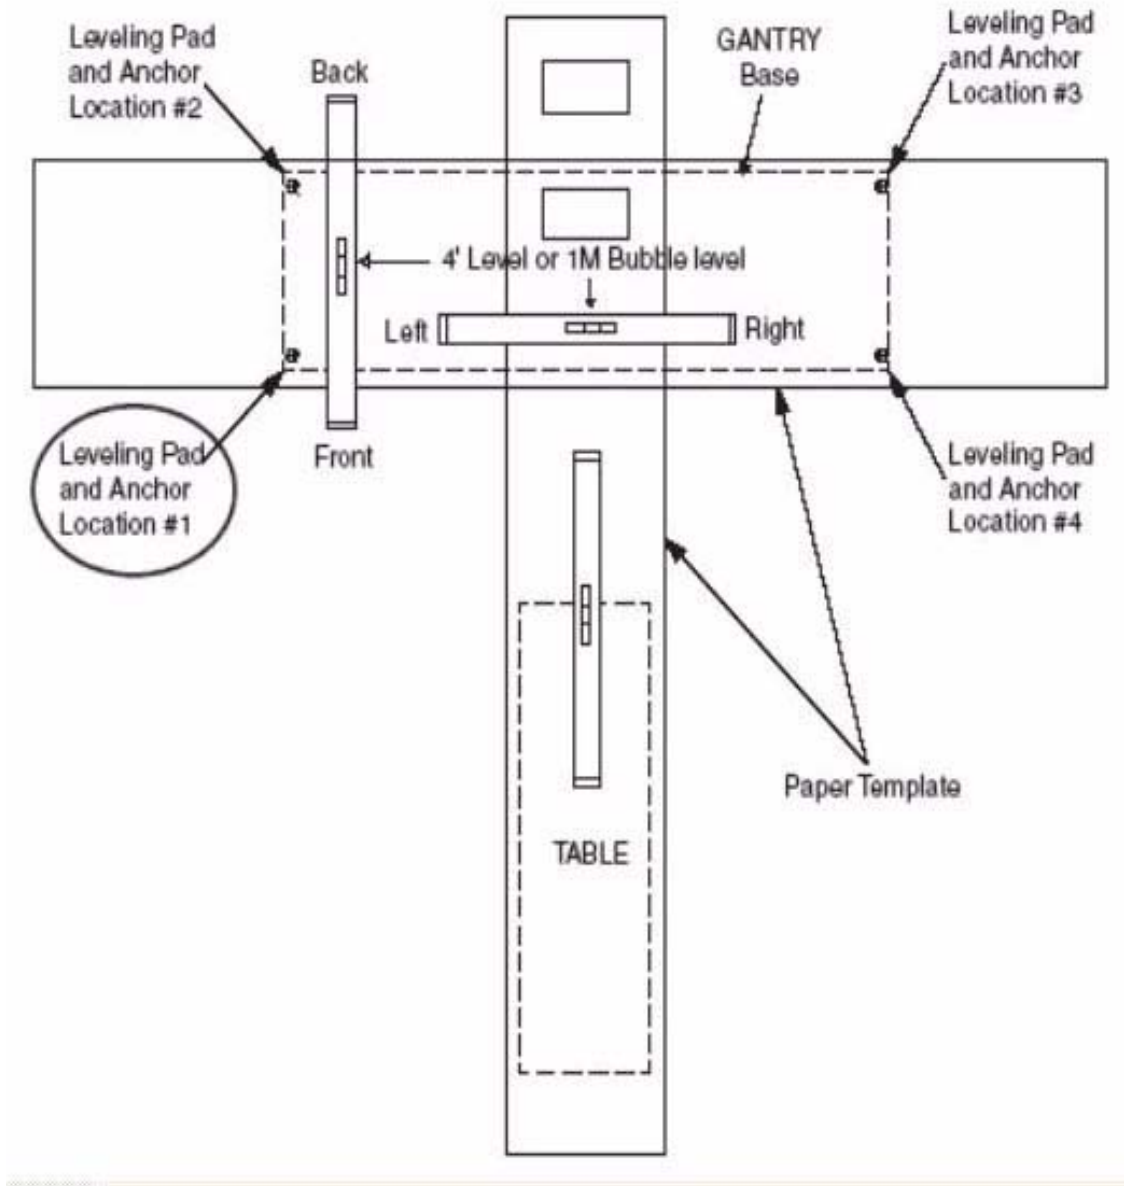

Figure 8-3 Determining Floor Levelness
- Refer to the steps listed in Section 3.1.3 and to Figure 8-3 to check whether the floor of the scan suite meets the floor levelness specifications for the system.
- 5.) Use a laser to check the levelness of the floor across the entire area covered by the template, as shown in Figure 8-3.